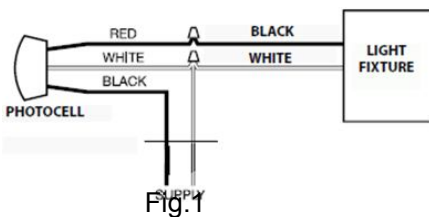

Fig.1
2. Install photocell and wire as per diagram Fig.1.